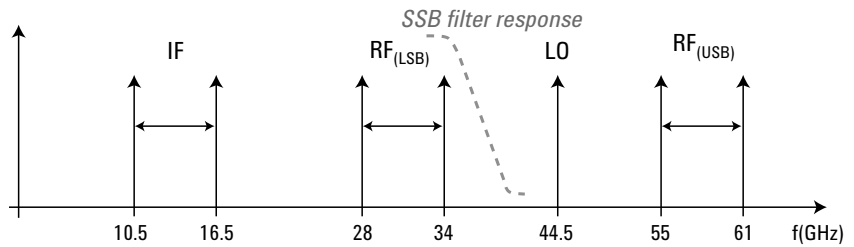

Figure 11. Frequency map
12. The governing equation for this measurement is $IF=LO-RF$. The frequency map is shown in Figure 11.